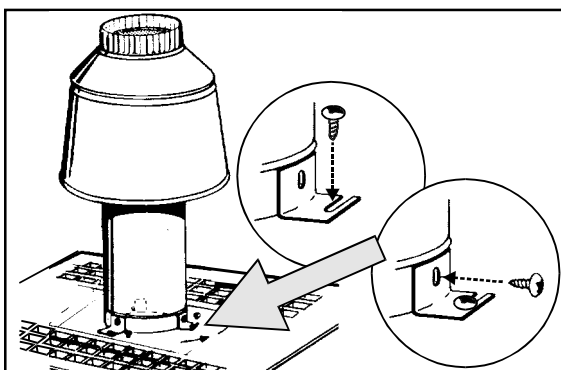

Figure 13.
12. Attach the clips to the adapter plate by securing the slotted side of the clips with the screws in the kit (see Figure 13).
14. Secure the stack to the clips with the screws supplied in the kit (see Figure 13).